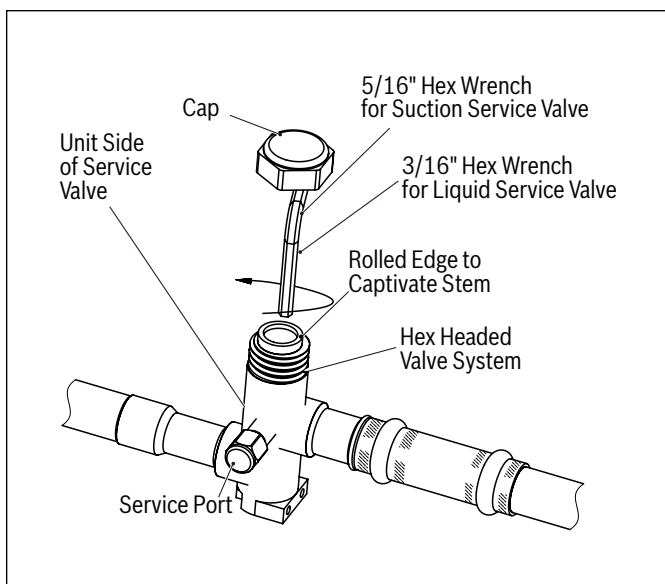

Figure 31
1. Remove Service Valve Cap (Figure 31).
2. Fully insert hex wrench into the stem and back out counterclockwise until valve stem just touches the rolled edge (approximately five (5) turns.)